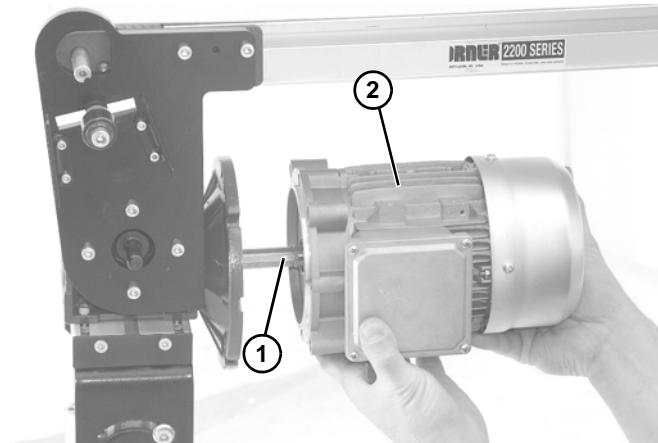

Figure 43
5. Apply anti-seize to motor shaft before assembling to gearbox. With key (**Figure 43, item 1**) in keyway, slide motor and gear reducer together. Install screws (**Figure 43, item 2**) and tighten.